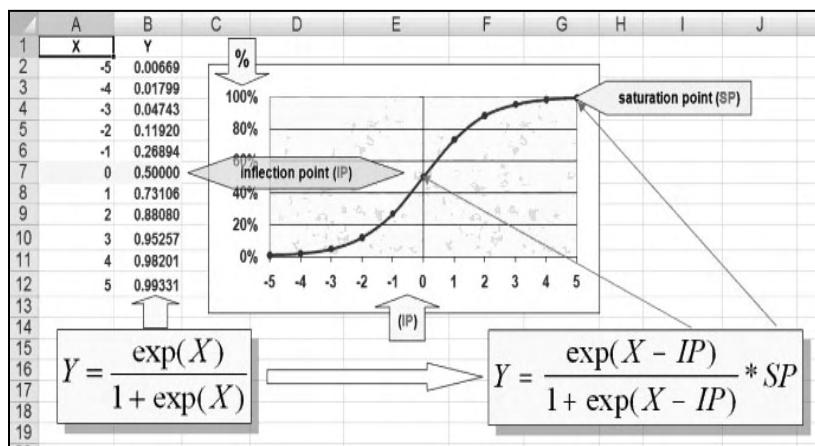

Figure: 4.25
- Figure 4.25 offers a more sophisticated approach (without requiring the use of integration). The formula on the left creates a sigmoid curve, but it returns values between 0 and 1 (%). So you could transform it into the formula on the right by including the inflection point (IP) and the saturation point (SP).